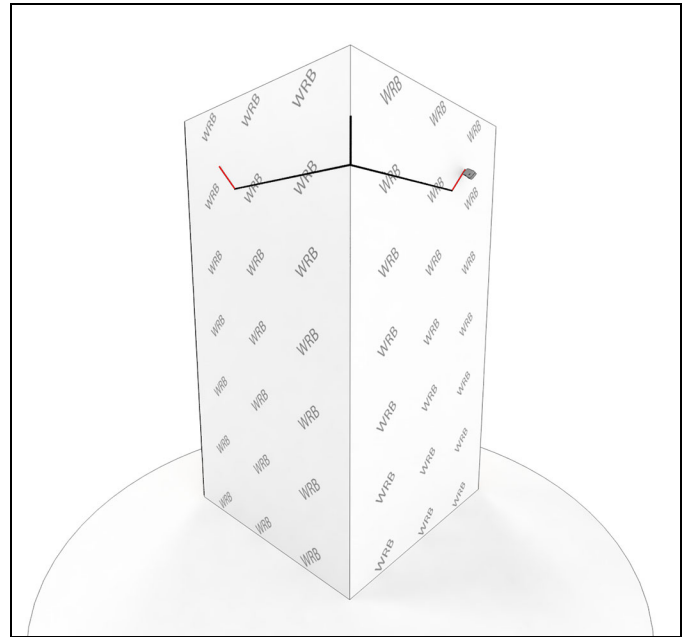

Figure 5
4. At the top corners, make a 45 degree cut away from the corner. See Figure 5.